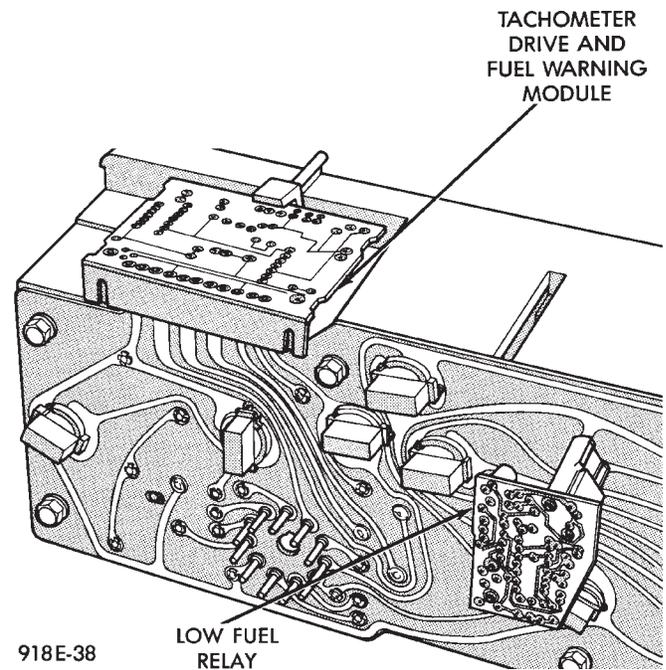

Fig. 32 Tachometer Drive and Low Fuel Warning Module
- (1) Remove cluster assembly. Refer to Cluster Assembly Replacement.
- (2) Pull tachometer drive module from printed circuit board (Fig. 32).
- (2) Pull low fuel relay from printed circuit board (Fig. 32).
(3) For installation reverse above procedure. Use care when aligning module to printed circuit board.
- (1) Remove cluster assembly.
- (2) Remove tachometer drive module, low fuel relay and gauge alert module (Fig. 32).
- (3) Remove all cluster lamps.